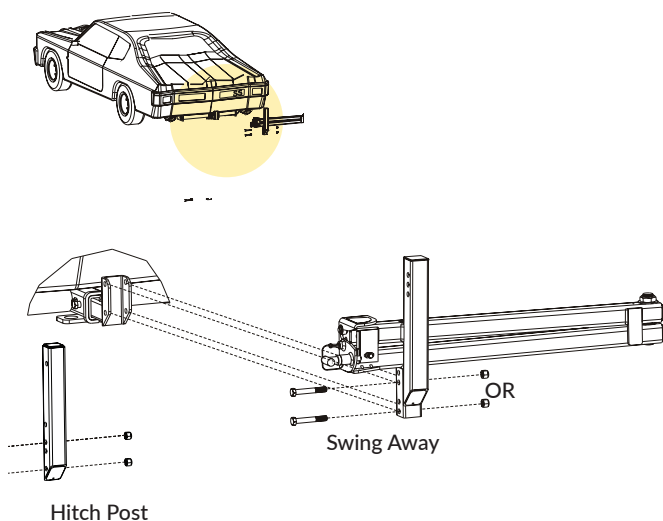

Figure 4-12
2. Fasten the swing away or hitch post to the hitch adaptor. *See Figure 4-12.*